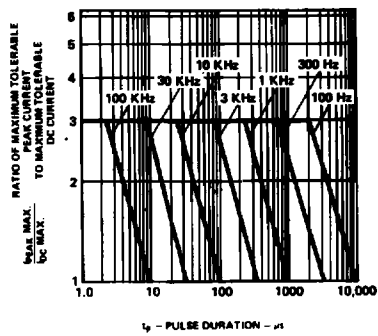

Figure 2. Maximum Tolerable Peak Current vs. Pulse Duration. ( $I_{DC\text{ MAX}}$  as per MAX Ratings).
- See Figure 2 to establish pulsed operating conditions.